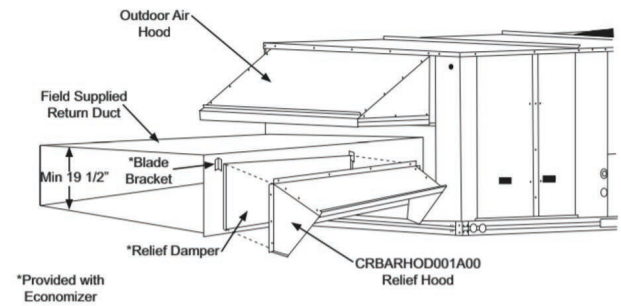

Fig. 24 — Installing CRBARHOD001A00 Over Relief Damper
4. Using the blade brackets, install the relief damper onto the side of the return duct. (See Fig. 24.) The two brackets and relief damper are provided with the economizer.
Caulk the backside of the mating flanges to ensure a watertight seal. Install the CRBARHOD001A00 over the relief damper and screw to the return duct, as illustrated in Fig. 24 and 26.